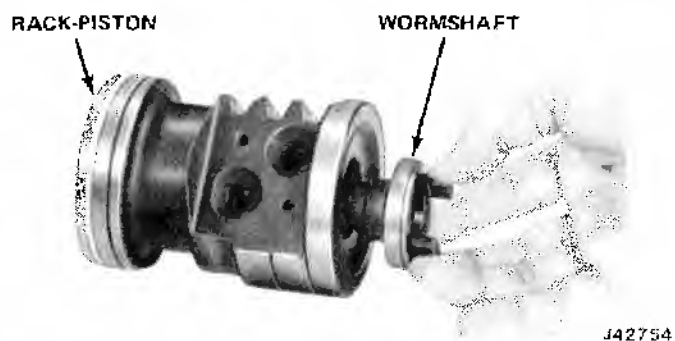

Fig. 11-73 Inserting Worm Shaft In Rack-Piston Nut
(3) Insert the worm shaft into rack-piston nut-to-bearing shoulder as shown in figure 11-73.